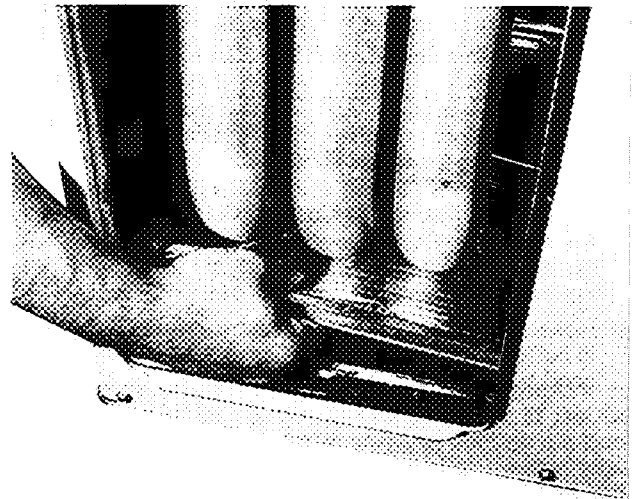
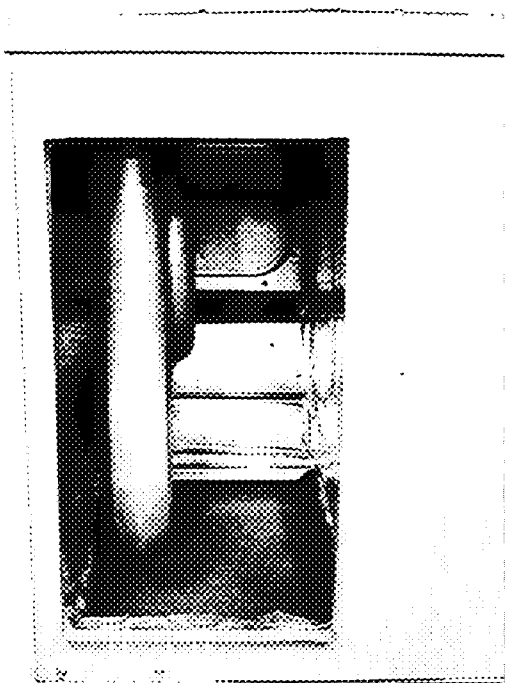

Fig. 19 — Removal of Vertical Discharge Opening Cover
Fig. 20 — Vertical Discharge Cover Removed
6. Remove and discard 2 screws which secure vertical discharge opening cover to basepan (Fig. 19). Slide cover forward to disengage, then tilt and remove cover through vertical discharge opening in bottom of unit. Discard duct cover (Fig. 20).